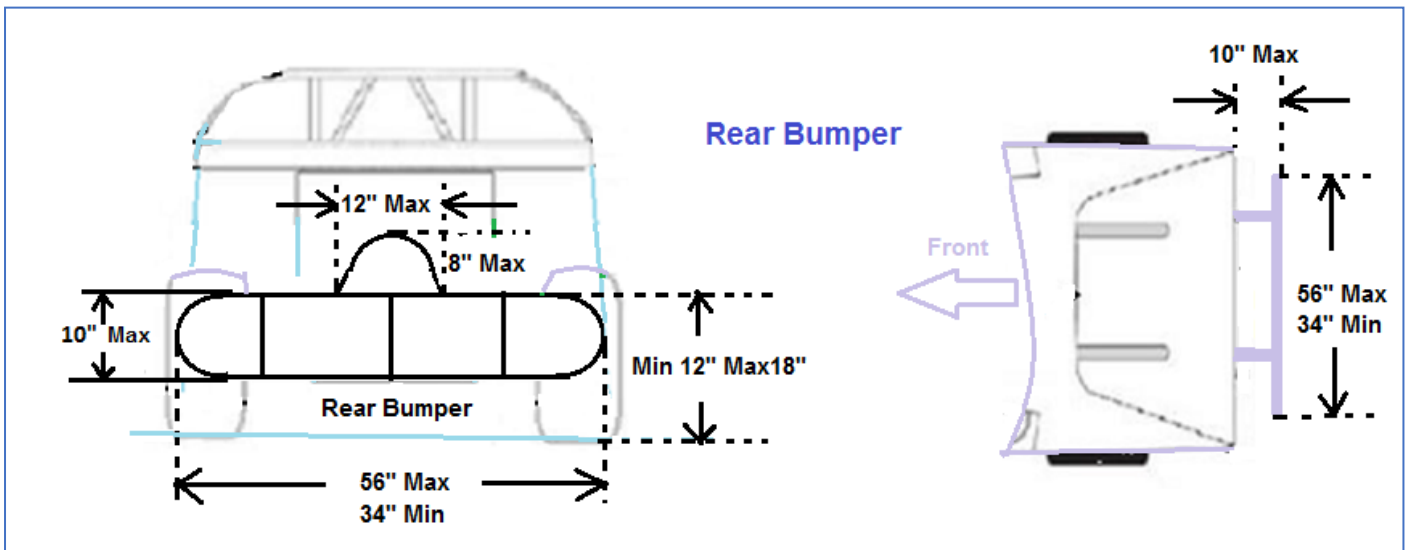

Figure 12
16.2 Rear bumper maximum width 56 inches or minimum width 34 inches. Rear bumper must have two horizontal bars combined with a minimum of three vertical sections that form a continuous hoop (no protrusions outside of this hoop). Rear bumper max height between outermost edges of horizontal bars is 10 inches. The distance from the ground to the top of the rear bumper must be 12 inches minimum or 18 inches maximum. Rear bumper must not extend more than 10 inches behind rear-most point of the body panels (Figure 12).
16.3 A hoop is allowed on the top side of the rear bumper bar no wider than 12 inches and a maximum of 8 inches high. Must be manufactured from the same material as the rear bar and welded in place. This is an option for push car protection only (Figure 12).